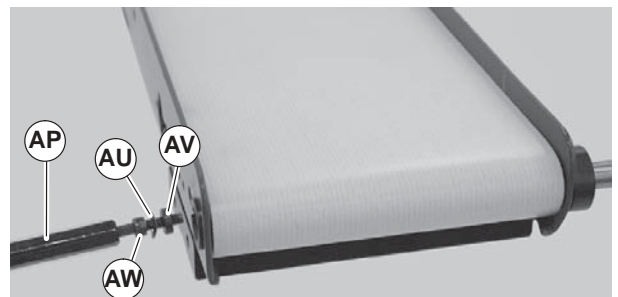

Figure 28
- Place pulley screw (Figure 28, item AW), wave washer (AU) and flat washer (AV) onto small end of hex key wrench extension tool (Figure 28, item AP) (25–08).